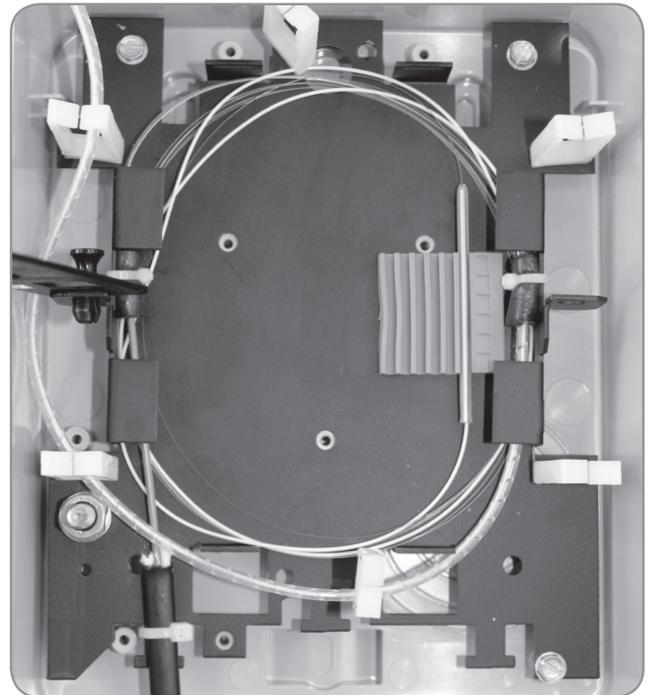

Figure 5
5. Once all splicing is complete, route the exposed fibers inside the splice tray. **(Figure 5)**